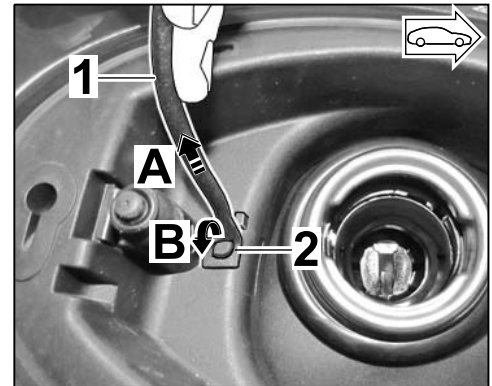

Figure 5
3.3 Carefully pull up fuel tank cap with retaining strap (⇒ *Figure 5-A-*).
Then swivel the retaining strap ring down over the pin (⇒ *Figure 5-B-*)